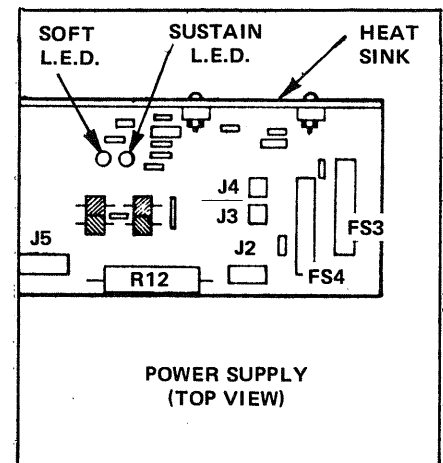

FIGURE 9-26 SUSTAIN L.E.D. location.
- C. Plug the Power Cord into the Ground Fault Circuit Interrupter, plug the Interrupter into the wall socket, and turn the Interlock and ① POWER Switches ON.
- D. Play Program 9. If the SUSTAIN L.E.D. on the Power Supply (see FIGURE 9-26) does NOT light or otherwise does not function correctly, refer to Section 10, TROUBLE ANALYSIS, for system repair procedures.